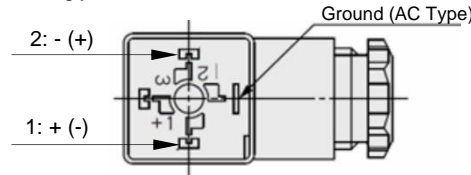

Figure 7. DIN connector pins
- Tighten screws and fittings according to Figure 7.